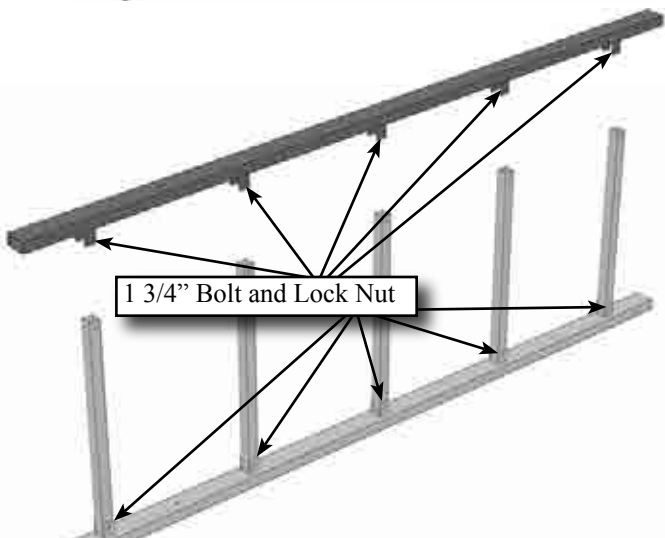

Figure 14
Step 5. Place the remaining lower ladder support column on the five rungs as shown in **Figure 14**. Use five 1 3/4" bolts with lock nuts to secure the rungs to the support column. Hand tighten these bolts.